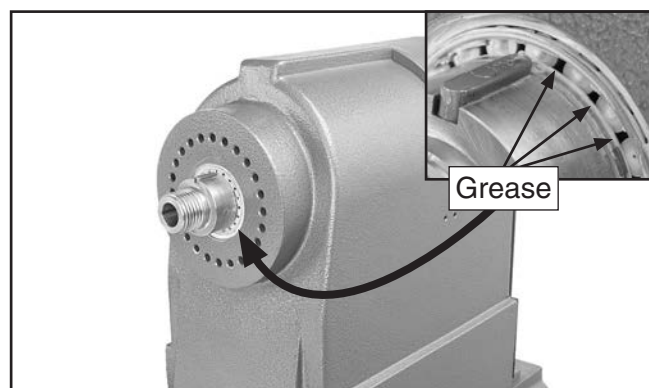

Figure 47. Location to add grease in between roller gaps.
7. Use a grease gun with a needle adapter to insert lithium grease into the spaces between each of the rollers shown in **Figure 47**.